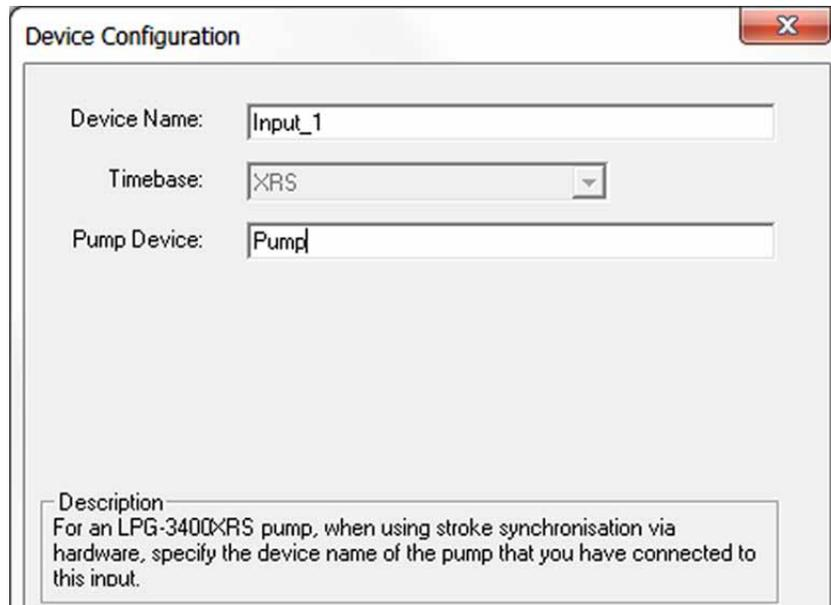

Fig. 37: Device Configuration page
5. Double-click **Input_X** and specify the name of the pump under **Pump Device** (→ Fig. 37). Make sure that you enter the same name as specified on the configuration pages of the pump on the **Devices** tab under **Pump device name** (→ page 48).